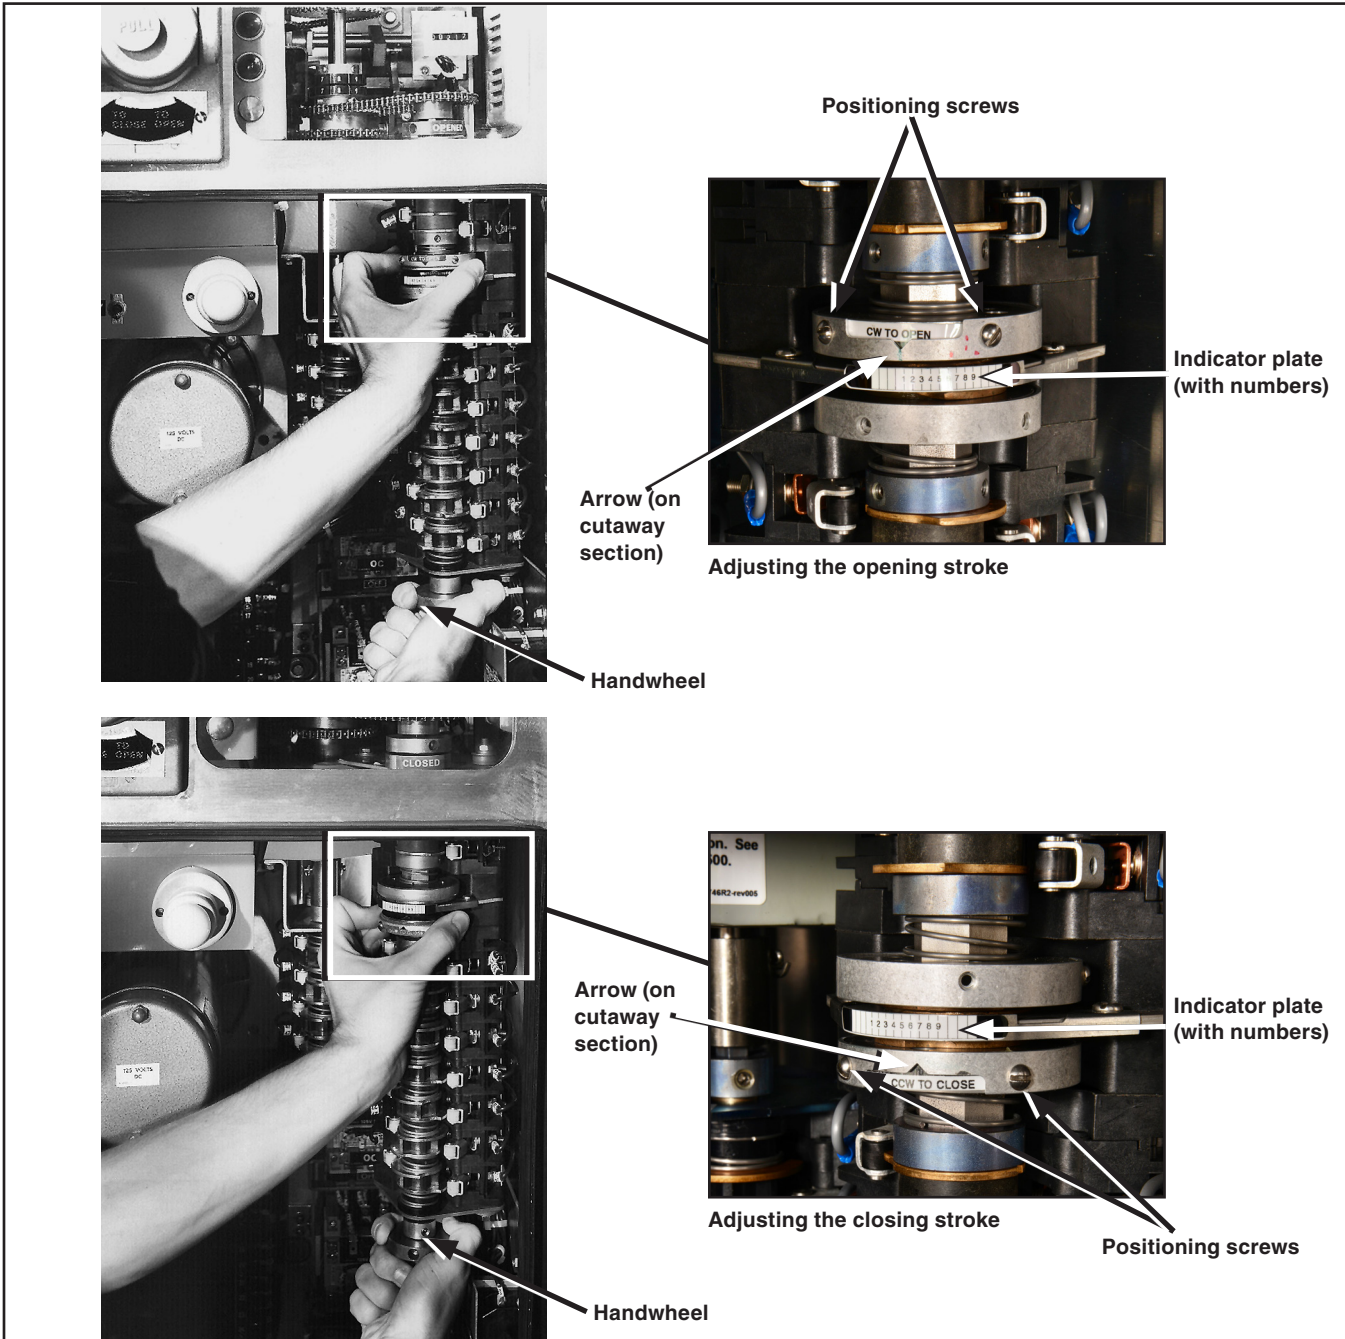

Figure 10. Adjusting the travel limit discs on the travel limit switch.
Note the direction in which the travel-limit discs rotate when the switch operator closes. The direction should agree with the temporary direction mark previously made on the top of the enclosure and with the direction displayed in the cutaway section on the outer ring of the travel-limit discs. See Figure 10 on page 18. (The rotation direction of the travel-limit discs is always the same as the output shaft rotation direction.
- (e) In the event that the rotation direction of the travel-limit discs noted in Step 4(c) is opposite to the direction displayed in the cutaway section on the outer ring of the closing-stroke travel-limit disc, remove the positioning screws on the outer ring of the closing-stroke travel-limit disc. See Figure 10
- (d) Grasp the handwheel and turn it to the extent possible in a direction opposite to the direction the output shaft rotates to open the circuit-switcher. See Figure 10 on page 18.
- (e) With the handwheel held in the position indicated above, raise the opening-stroke travel-limit disc approximately $\frac{3}{16}$ of an inch (5 mm) and rotate the disc until the arrow on its outer ring is in line with the number on the indicator plate as specified in Table 1. Lower the disc, make sure it is engaged, and release the handwheel. See Figure 10 on page 18.
- (b) Grasp the handwheel and turn it to the extent possible in a direction opposite to the direction the output shaft rotates to close the circuit-switcher. See Figure 10 on page 18.